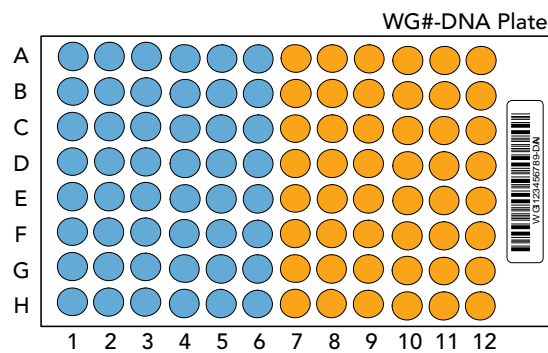

Figure 19 WG#-DNA Plate Sample Well Distribution
3. Dispense DNA according to Figure 19:
The example shown in Figure 19 applies to 96 samples. For 48 samples, fill the first half of the plate only (blue shaded section).